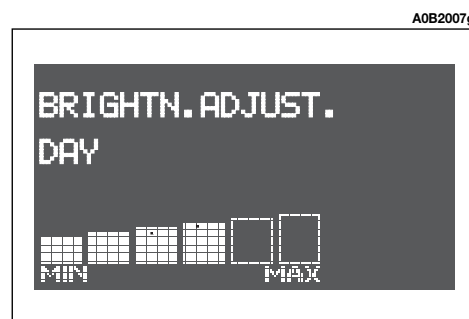

fig. 80
- if the outside lights are off, the message BRIGHTN. ADJUST. DAY will appear on the display (**fig. 80**).